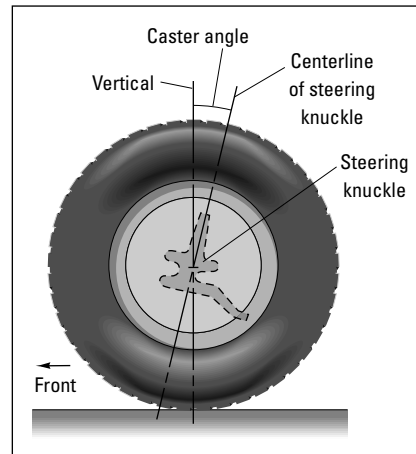

Figure 17-5: Caster.
- ✔ **Caster:** Has to do with the position of your **steering knuckle** as compared to a vertical line when viewed from the side (see Figure 17-5). If properly adjusted, it makes your wheels track in a straight line instead of weaving or shimmying at high speeds. Caster also helps return the steering wheel to a straight-ahead position after completing a turn.